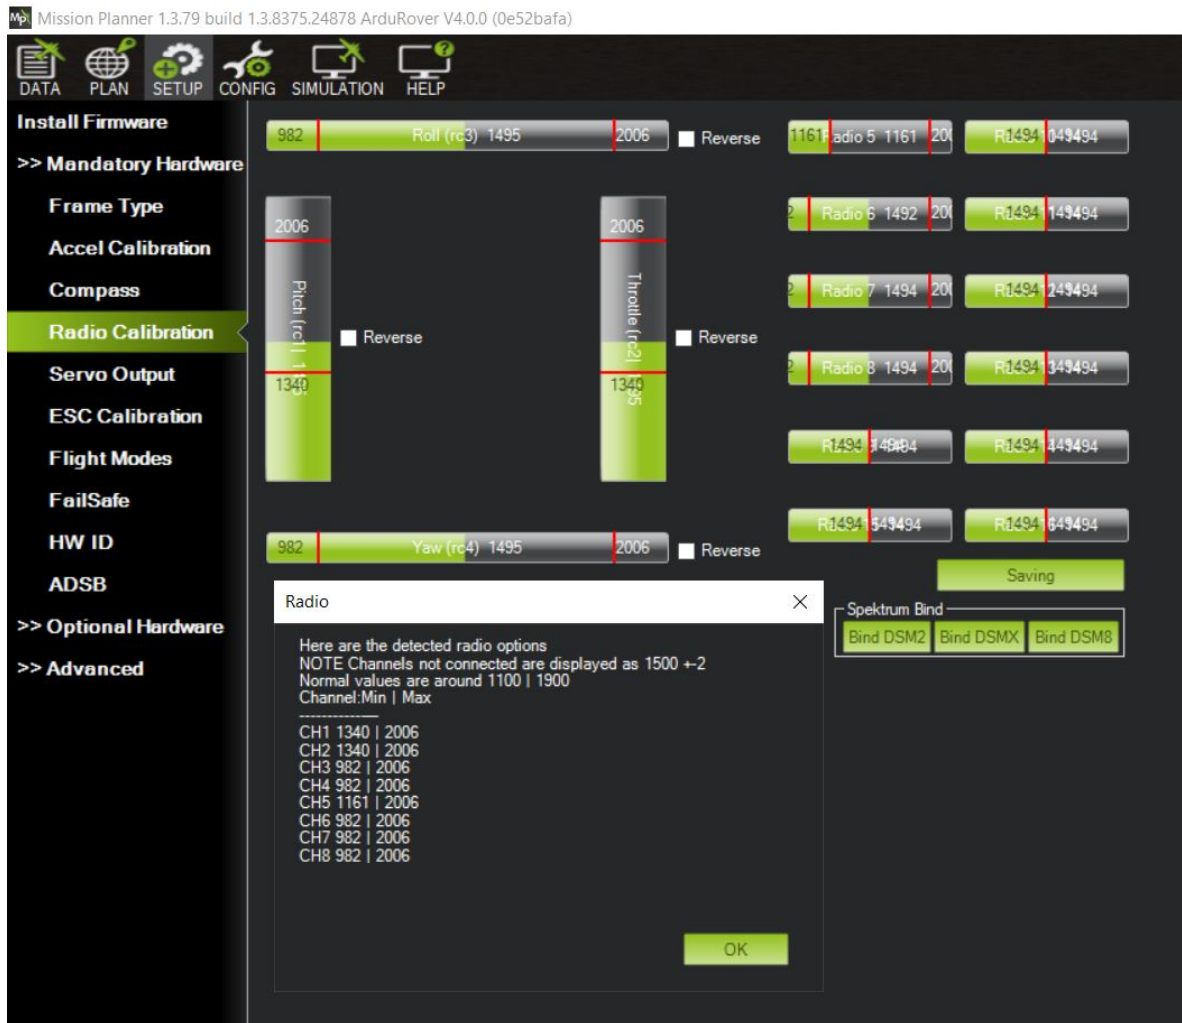

Figure 61: Radio Calibration Verification
13. A page will popup indicating the new min and max values. Press OK. (Refer to Figure 61)